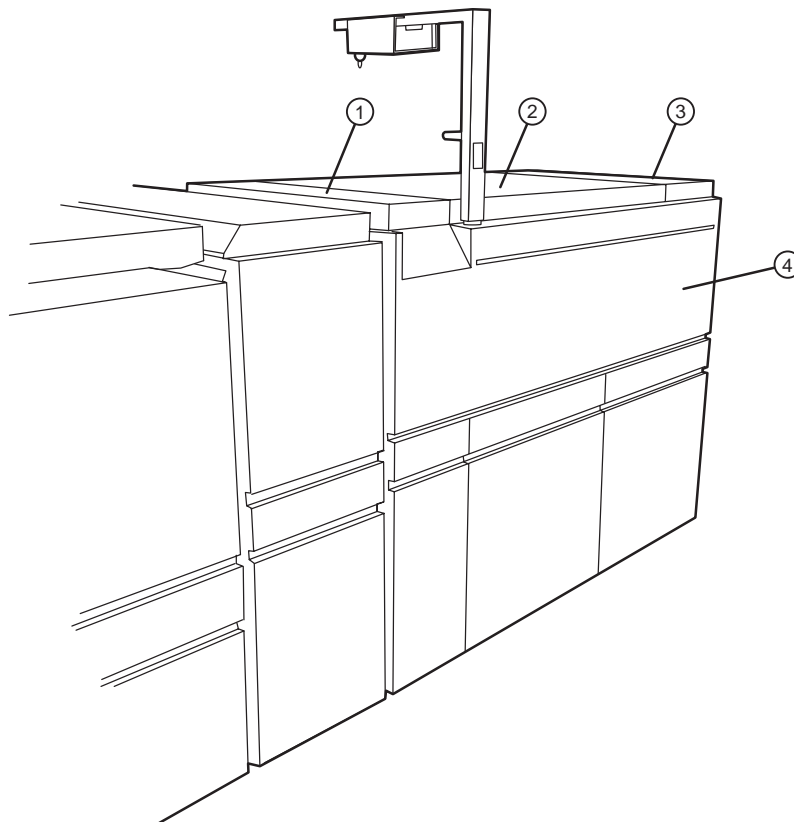

Figure 2-1 OLP cover and panel identification and location.
2. Remove the top covers and, using a phillips head screwdriver, remove the four (4) screws on the top and three (3) screws on the bottom of the right side panel. Refer to Figure 2-1 and 2-2. Lift and remove the side panel.